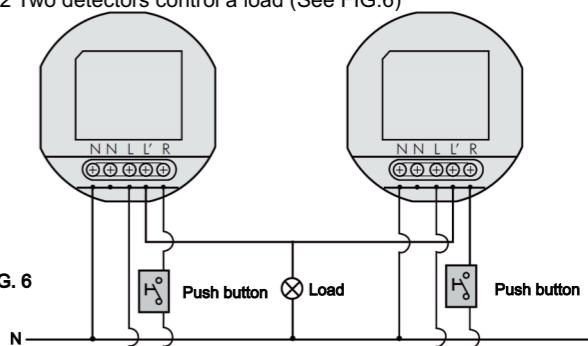

FIG. 6
3.3.2 Two detectors control a load (See FIG.6)